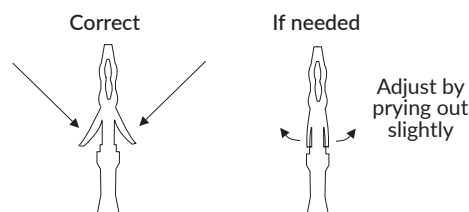

Figure 4-5
6. Examine the retaining flanges on the pin, as they may have become damaged during the process of routing wire through the vehicle. These retaining flanges are crucial to securing the pins inside the connector. Adjust these flanges as needed. **See Figure 4-5.**